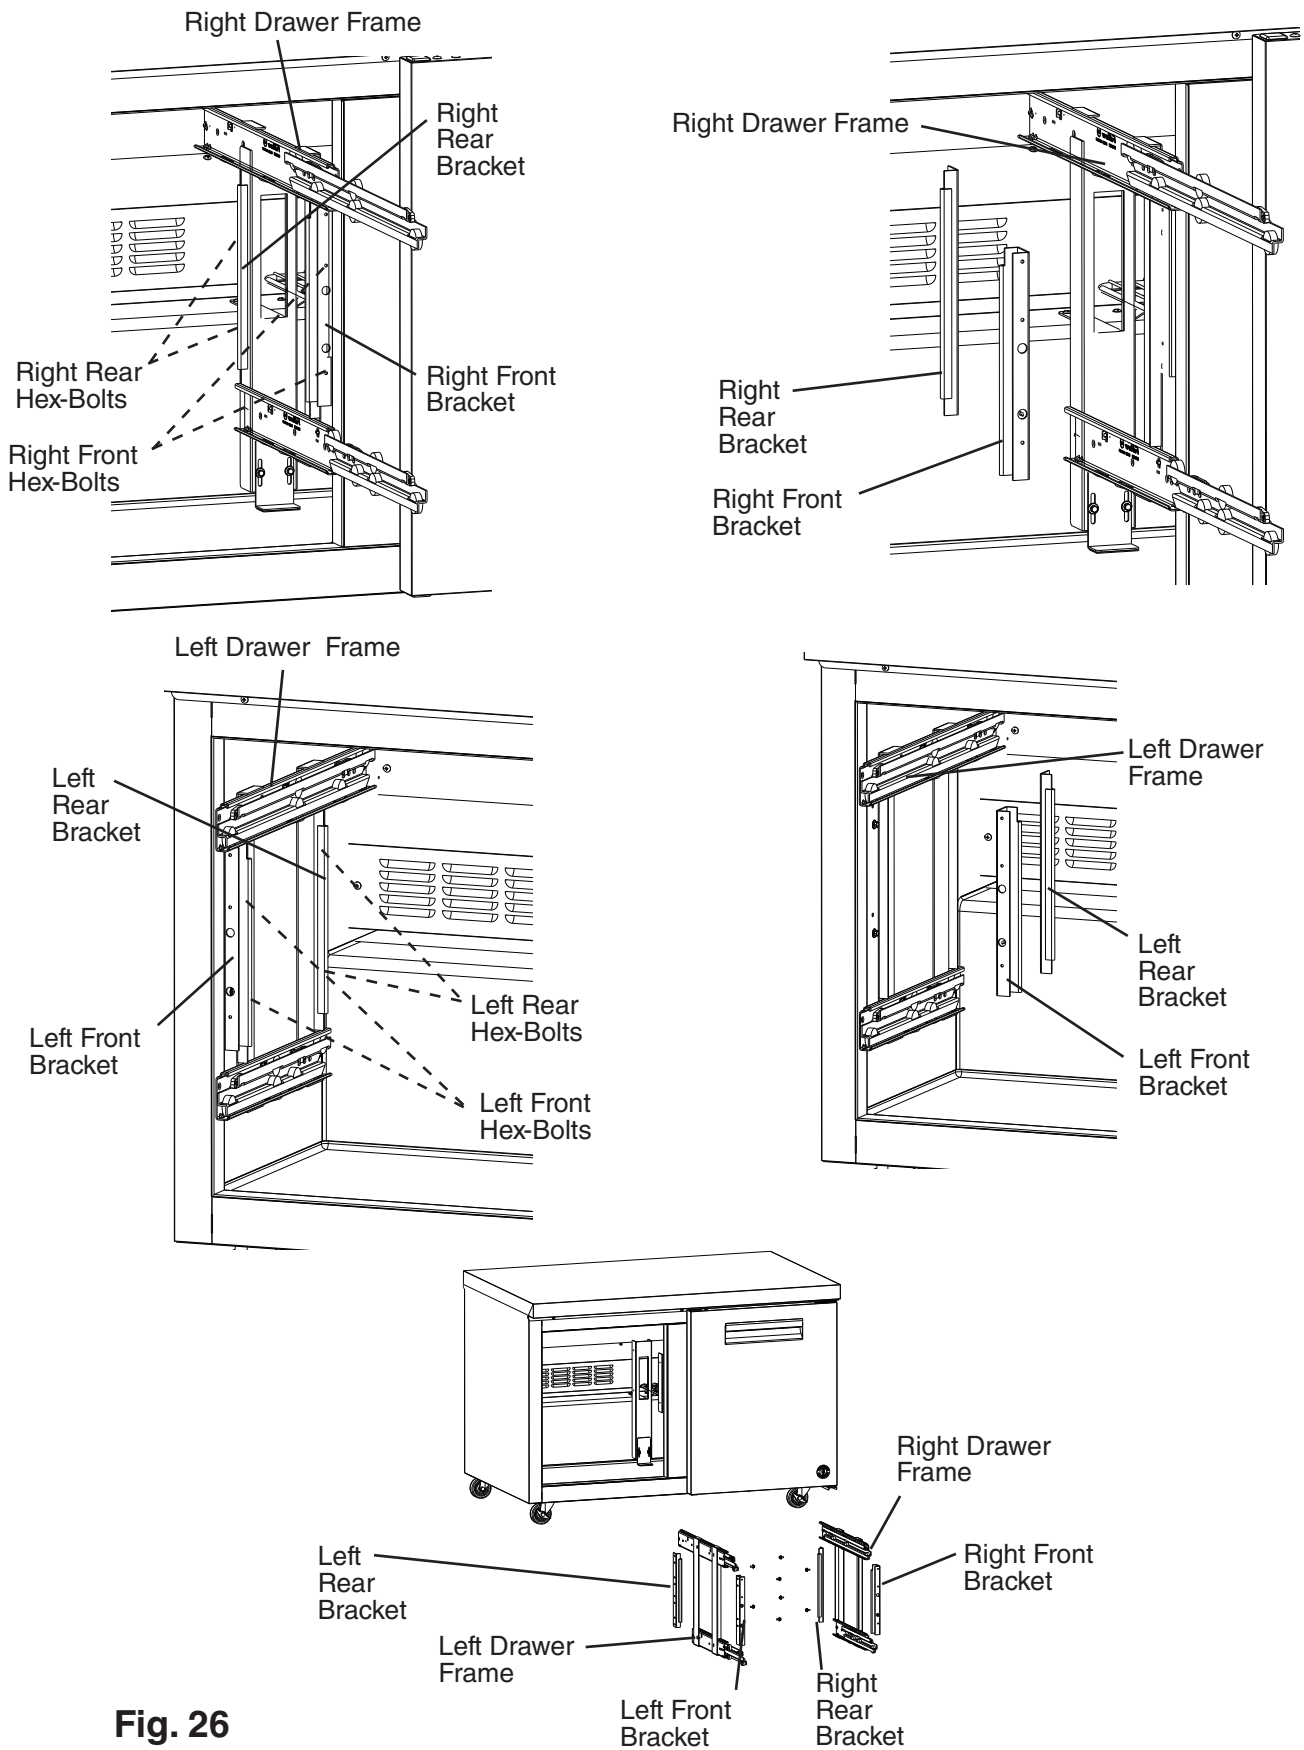

Fig. 26
4) Remove the hex-bolts from the 2 right (front and rear) and 2 left (front and rear) brackets (2 hex-bolts per bracket), then remove the right and left drawer frames. See Fig. 26.